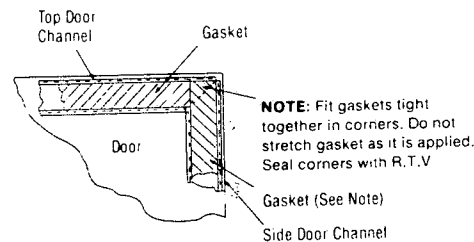

Figure 8-19. DOOR SEAL.
8.15.1 Installing Door Seal Channel (Figs. 8-19, 8-20)
6. Apply RTV primer to inside of door channel and allow to dry. Then apply a thin (1/32") film of RTV to bottom of the channel along its entire length. While RTV is still soft, install adhesive backed rubber gasket into door seal channel (adhesive toward RTV) after removing paper backing strip. These rubber gaskets will not require mitering in corners. Fit gaskets inside channels first using full length strips. Do not stretch rubber gaskets when installing in channels. (See Figures 8-19 and 8-20)